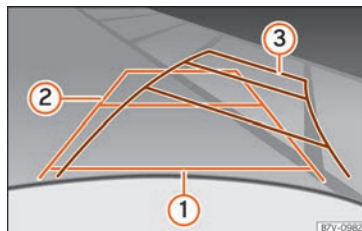

Fig. 273 Screen: orientation lines for the parking space behind the vehicle.
Meaning of orientation lines displayed on the screen »» **Fig. 273.** All of the lengths of the orientation lines use a vehicle located on a horizontal surface as reference.
- Reverse slowly and turn the steering wheel so that the yellow orientation lines guide you towards the space » Fig. 273 ③.